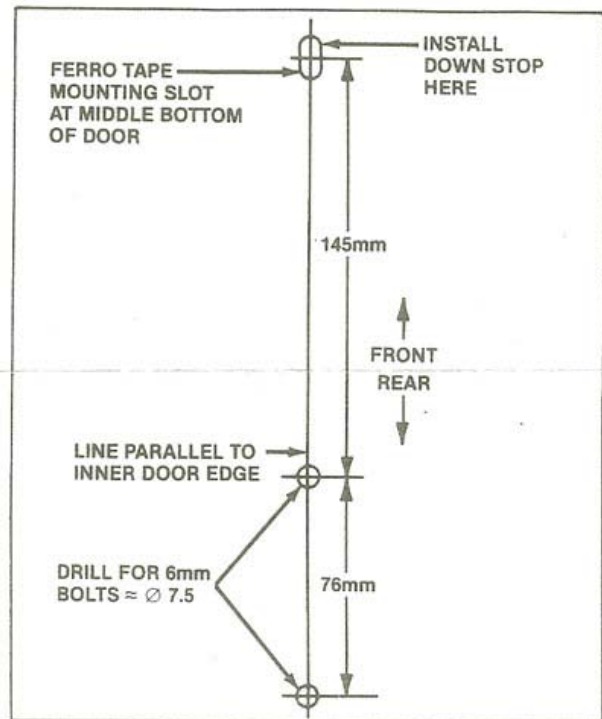

Figure 1. Drilling Dimensions
2. Drill two holes for 6mm bolts in bottom of door as shown in figure 1.
4. Install rubber down stop in slot in bottom of door (see figure 1).